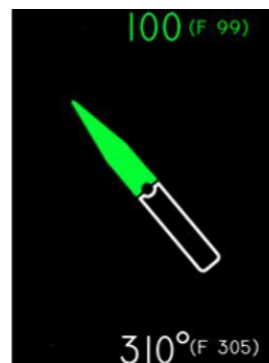

Figure 2.9: Azimuth
- set-point and feedback displays both set-point and feedback signal, with the set-point signal being displayed dominantly, as shown in figure 2.9